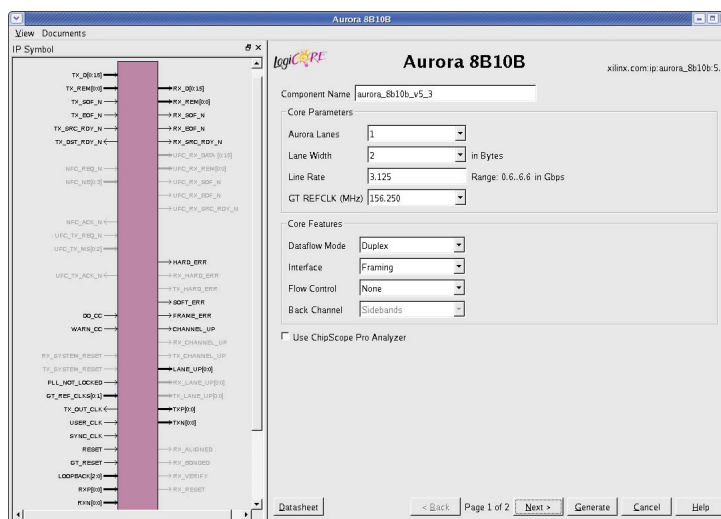

Figure 9-1: CORE Generator Aurora 8B/10B Customization Screen
7. In the Component Name field (Figure 9-1), enter a name for the core instance. This example uses the name **aurora_8b10b_v5_3**.